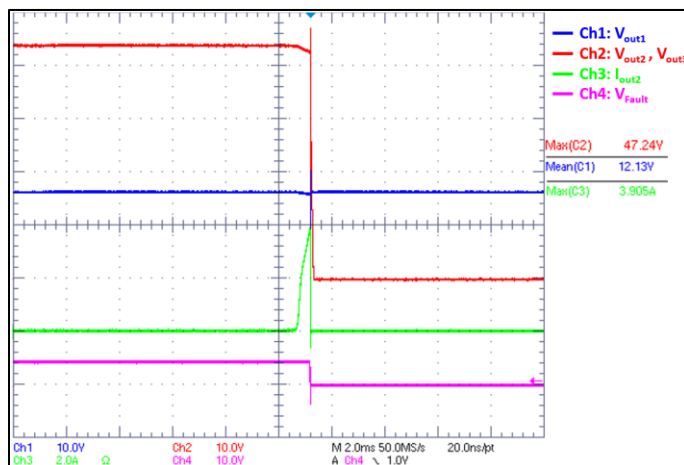

Figure 7. Turning Off 48V Rail with I_{CB} Event while 12V Rail Stays On
5. Observe the output 1 voltage remaining constant while the output 2 and 3 voltage drop to 0 (See Figure 7).